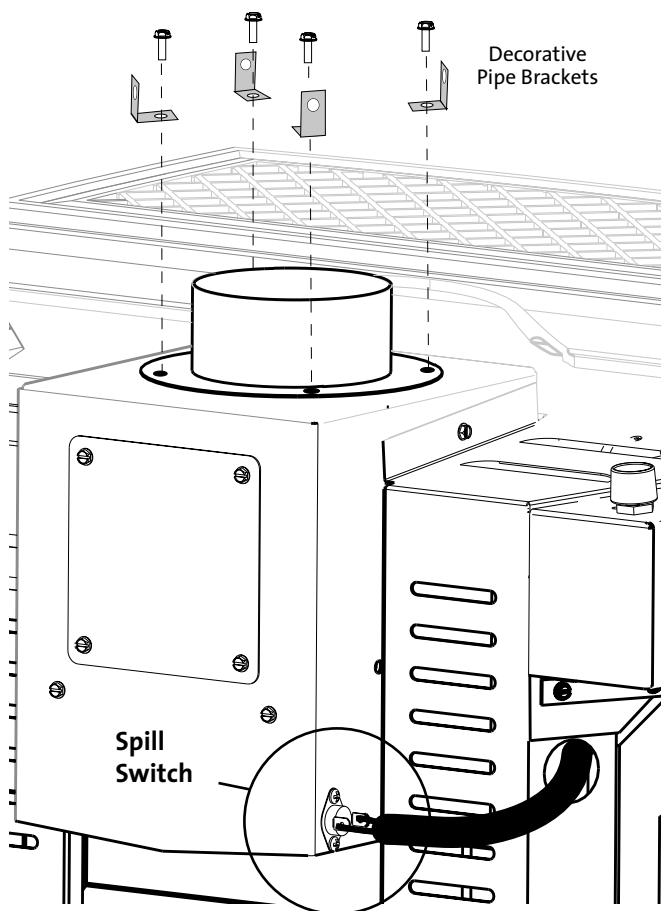

Figure 27.
1. Remove the four 1/4" hex head screws that attach the 4" Flue Collar to the draft hood, but do not remove the Flue Collar. See Figure 27.
NOTE: This appliance is equipped with a Spill Switch which will disable the burner in the event that the vent system becomes blocked. Located on the side of the Draft Hood, at the back of the stove, the switch has a reset button that, when pressed, will re-enable burner function. See Fig. 27.